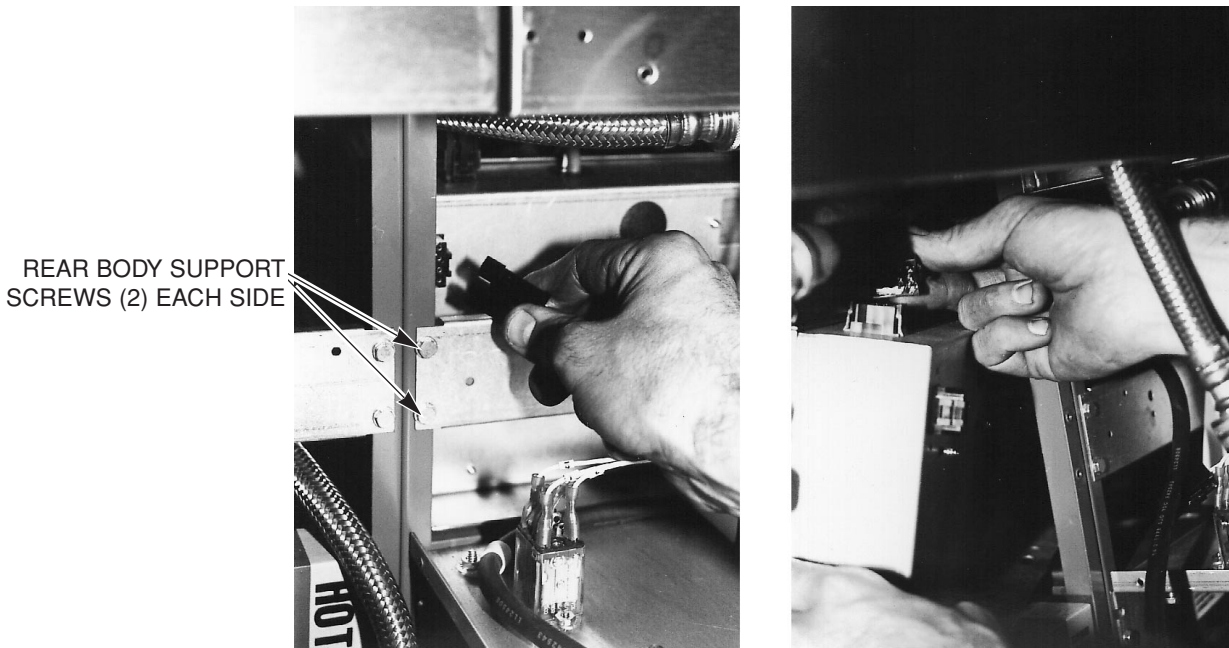

Fig. 73
2. Note and disconnect all wiring and wire harnesses. (Fig. 73)
5. With a $\frac{5}{16}$ " socket, remove (4) screws securing the rear body support bracket to the cooker. (See Fig. 73)